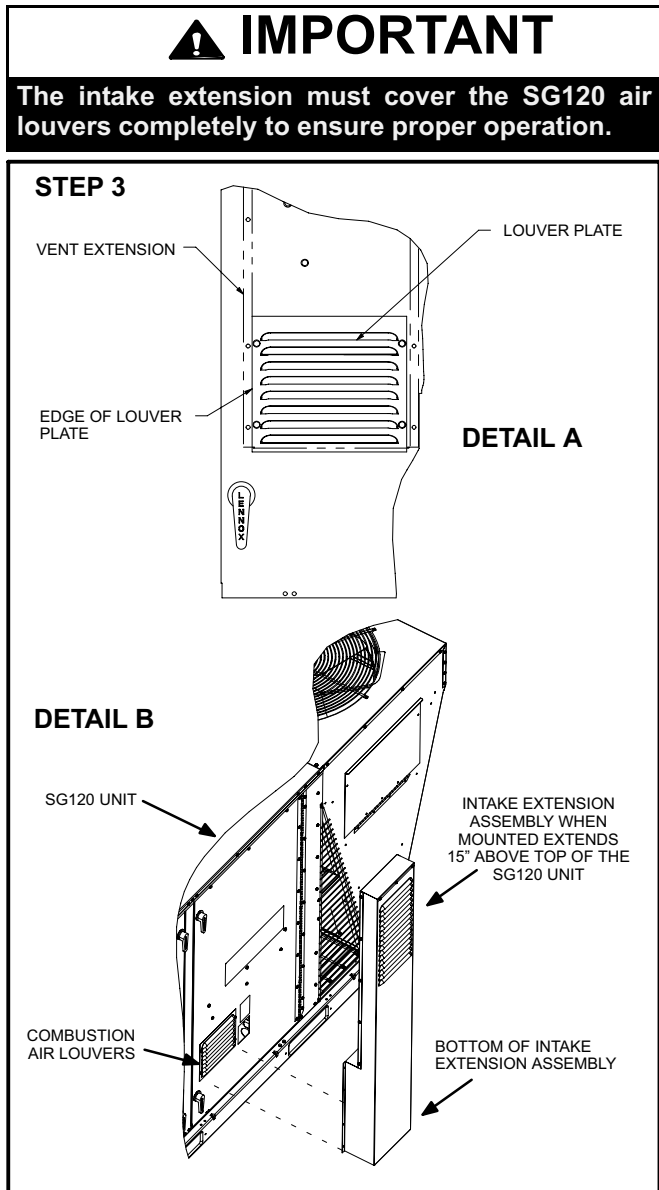

Figure 3. Positioning the Intake Extension Assembly on the SG120
Step 3. Align bottom of the intake extension assembly with the bottom of the combustion air louvers on the unit as illustrated in figure 3, detail A.